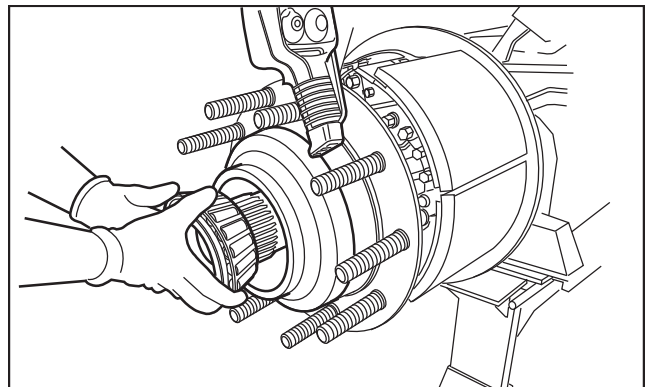

Fig. 3.23
24. Fit the external wheel bearing. Fig. 3.23